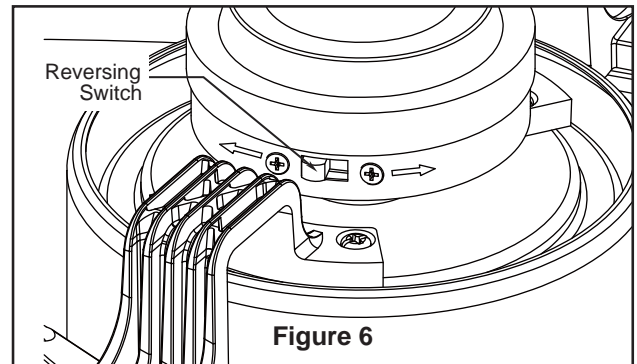

Figure 6
6. Assemble the light kit to the lower housing assembly using the two key slots. Replace the removed screw and secure all three screws. (Figure 6)
6. If airflow is desired in the opposite direction, turn the fan off and wait for the blades to stop turning. Then slide the reverse switch on top of motor assembly to the opposite position and turn fan on again. (Figure 6)